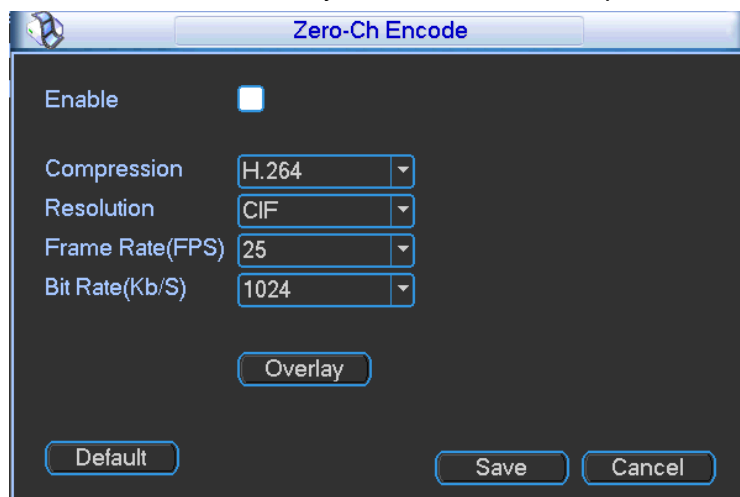

Figure 4-70
- Zero-Channel Encoding (Multiple-Preview) : Click Setup button, you can go to the following interface. See Figure 4-70. Here you can enable and set zero-channel encoding function so that you can view several video sources at one channel.